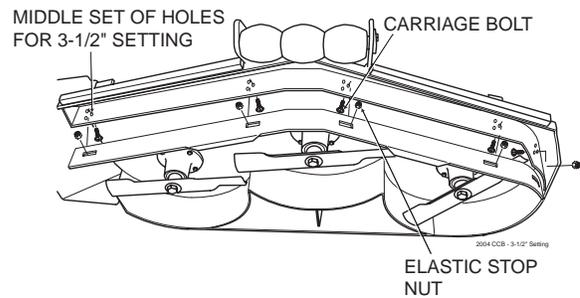

Figure 10. 3-1/2" Custom-Cut Baffle Position
- B. 3-1/2" Position (factory setting for Advantage cutter decks) - baffle is installed using the middle set of holes on the front baffle welded inside the cutter deck. (See Figure 10). For general purpose cutting, place the Custom Cut Baffle in the 3-1/2" position. This gives the best mix of cutting performance in all types of grass.